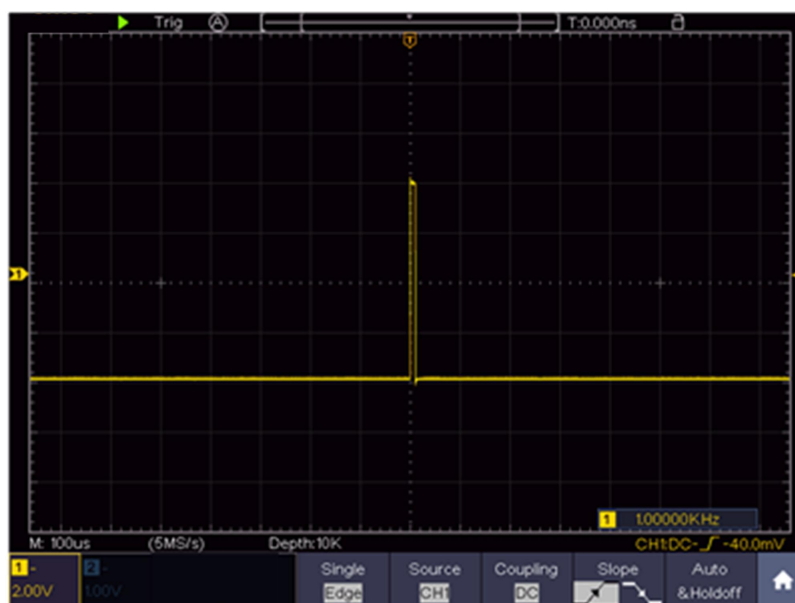

Figure 8-3 Capturing a Single Signal
- (3) Click  to call up the menu panel. Click the **Acquire** softkey on panel to
- (4) Select **Acqu Mode** in the bottom menu. Select **Peak Detect** in the right menu.
- (5) Click  to call up the menu panel. Click the **Trig Menu** softkey on panel to display the Trigger menu.
- (6) Select the first menu item in the bottom menu. Select **Single** in the right menu.
- (7) In the left menu, select **Edge** as the mode.
- (8) Select **Source** in the bottom menu. Select **CH1** in the right menu.
- (9) Select **Coupling** in the bottom menu. Select **DC** in the right menu.
- (10) In the bottom menu, select **Slope** as  (rising).
- (11) Turn the upper knob and adjust the trigger level to the roughly 50% of the signal to be measured.
- (12) Check the Trigger State Indicator on the top of the screen, if it is not Ready, push down the **Run/Stop** button and start acquiring, wait for trigger to happen. If a signal reaches to the set trigger level, one sampling will be made and then displayed in the screen. By using this approach, a random pulse can be captured easily. For instance, if we want to find a burst burr of high amplitude, set the trigger level to a slightly higher value of the average signal level, push the **Run/Stop** button and wait a trigger. Once there is a burr occurring, the instrument will trigger automatically and record the waveform during the period around the trigger time. When the **HOR** button is lit, by turning the upper knob on the front panel, you can change the horizontal triggering position to obtain the negative delay, making an easy observation of the waveform before the burr occurs (see *Figure 8-3*).